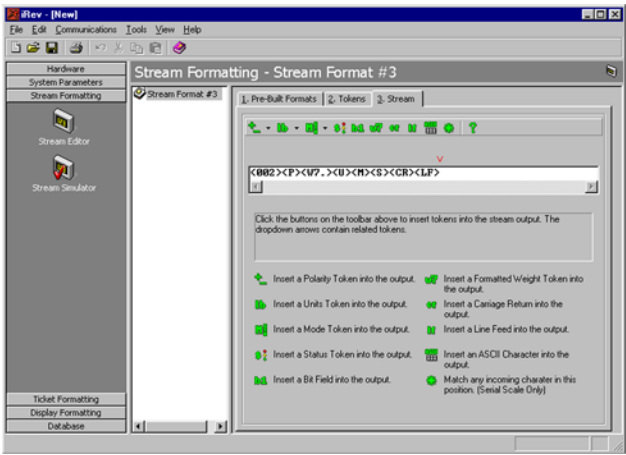

Figure 11-1. *iRev 4* Stream Formatting Display
*iRev 4* provides several preset scale formats within its Stream Formatting function. Figure 11-1 shows one of the *iRev 4* stream formatting displays.